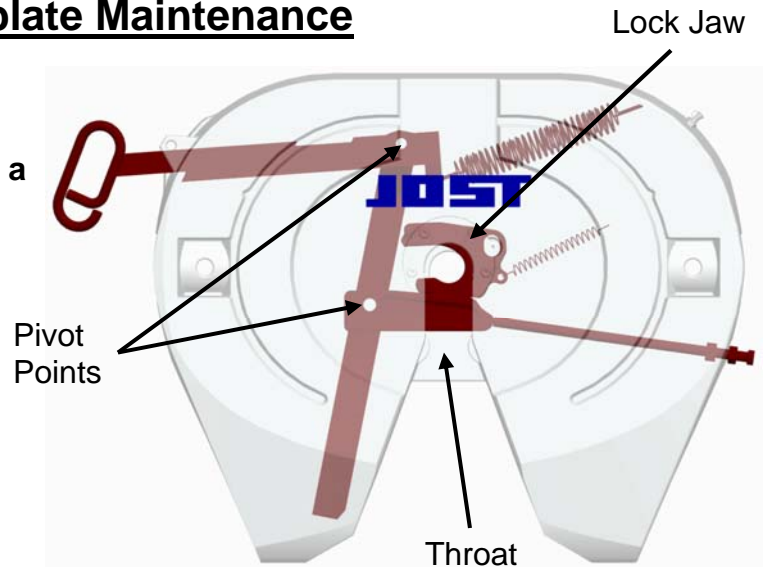

FIGURE 1
Step 1-2) Pay particular attention to, removing any grease buildup within and around the lock jaw, throat & the pivot points (see figure 1).
Step 1-5) Spray penetrating oil such as PB Blaster or Kroil and lubricate both pivot points underneath topplate (see figure 1).